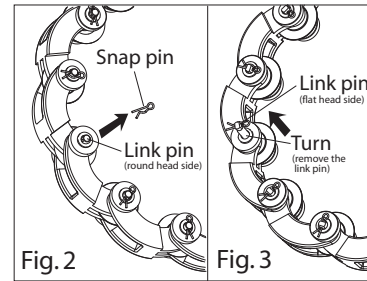

Fig. 2
- Remove the snap pin from the round head side of the link pin. (Fig. 2)